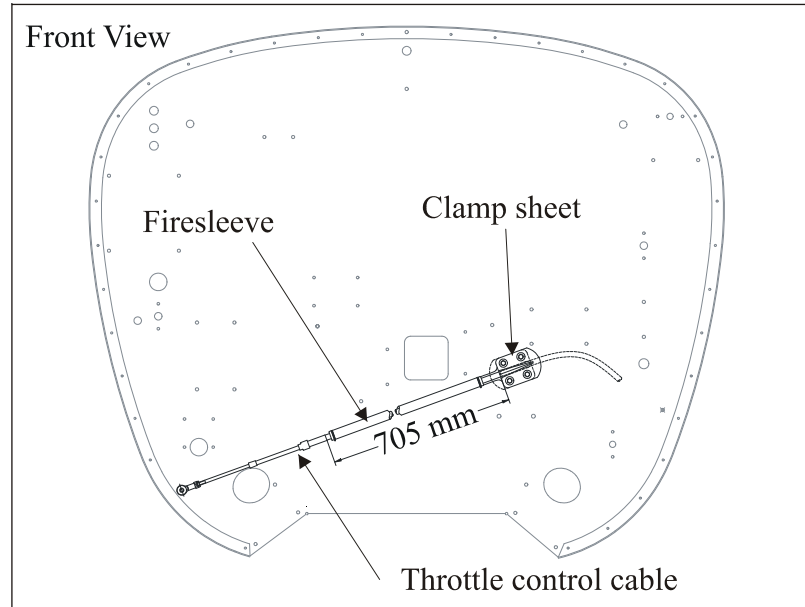

Figure 2 *Clamp Sheet to Clamp Block Distance*
- 7 Remove clamp block (3) attachment bolt(s).
- 9 Remove cushioned clamp (4).
- 11 Remove 4 bolts and firewall sealant of the clamp sheets (Figure 2) positioned at the firewall break through.
- 1 Install the throttle control cable according to the prior marked routing. Ensure distance between clamp sheet at the firewall and clamp block is 705 mm (refer to Figure 2).
- 6 Install the 690 mm firesleeve to the throttle control cable and secure with safety wire at both ends (refer to Figure 2).
- 3 Check usable stroke of control cable. The over-travel of the control cable in retracted and extended position shall be 8 to 13 mm [5/16" - 1/2"]. Ref. to figure 2 of Chap. 20-10-09.